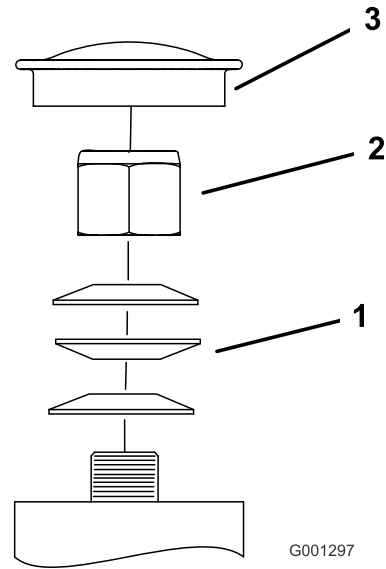

Figure 77
3. Remove the dust cap from caster and tighten the locknut (**Figure 77**).
4. Tighten the locknut until the spring washers are flat, and then back off a 1/4 turn to properly set the preload on the bearings (**Figure 77**).
Important: Make sure that the spring washers are installed correctly as shown in **Figure 77**.
5. Install the dust cap (**Figure 77**).